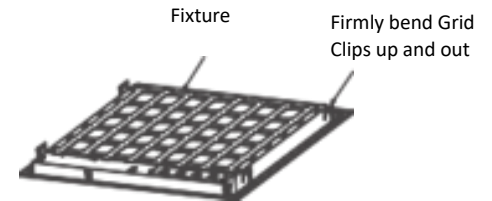

Fig.2
2. Rotate & slide the fixture as required to fit through the Tee Grid Bar and place it as indicated by the directional arrow as shown in Fig. 2. Secure the Fixture to the Tee-Grid Bar